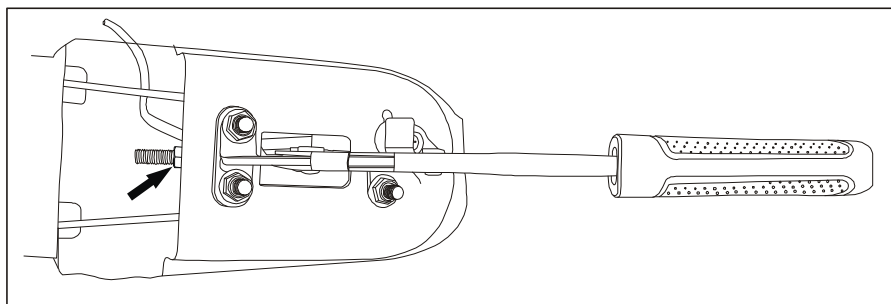

Fig.5-26 Parking Brake Control Nut
- (1) Remove the parking brake cover.
- (2) Lift the rear of car to make its rear wheels suspended.
- (3) Check whether the parking brake cable runs well.
(4) Step down the brake pedal several times to achieve the correct clearance between brake shoe and drum.
(5) Tighten and loosen the handle of parking brake continually 4 times to confirm that the operation of mechanical clearance self-control device is normal.
(6) In case of releasing the handle of parking brake, turn the rear wheels, while adjusting the nut slowly (see Fig.5-26), until the wheels can't rotate freely due to a slight resistance.